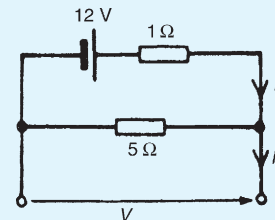

Figure 13.91
- For the circuit shown in Fig. 13.91, voltage  $V$  is:
5. For the circuit shown in Fig. 13.91, current  $I_1$  is:
6. For the circuit shown in Fig. 13.91, current  $I_2$  is: